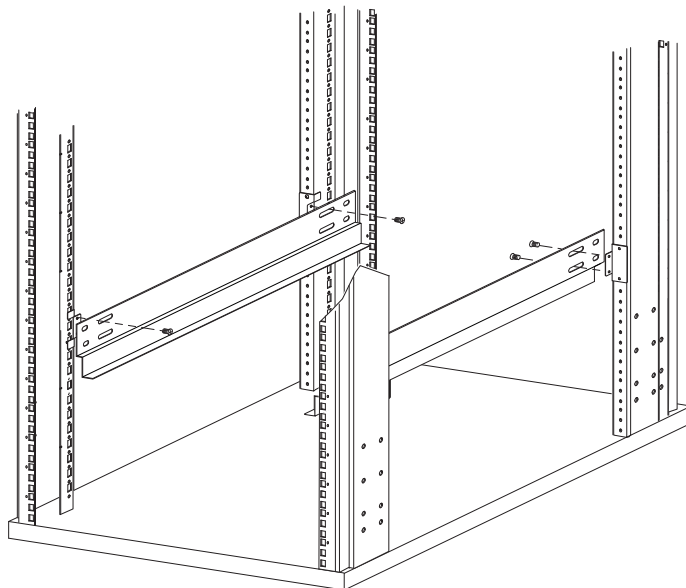

Figure 11: Shelf brackets mounted in HP 9000, HP 10000, and HP 11000 series rack
7. Attach two shelf brackets to the angle brackets on each side of the cabinet using eight (8) pan head screws and a #2 Phillips head screwdriver as shown in Figure 11.